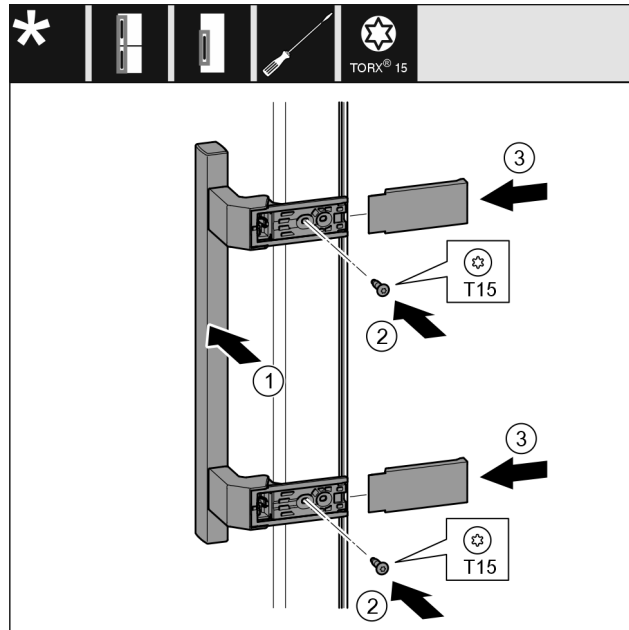

Fig. 19
- Place the handle Fig. 19 (1) on the opposite side.
- Tighten screws Fig. 19 (2) with screwdriver.
- Place the covers Fig. 19 (3) on the side and push them on.